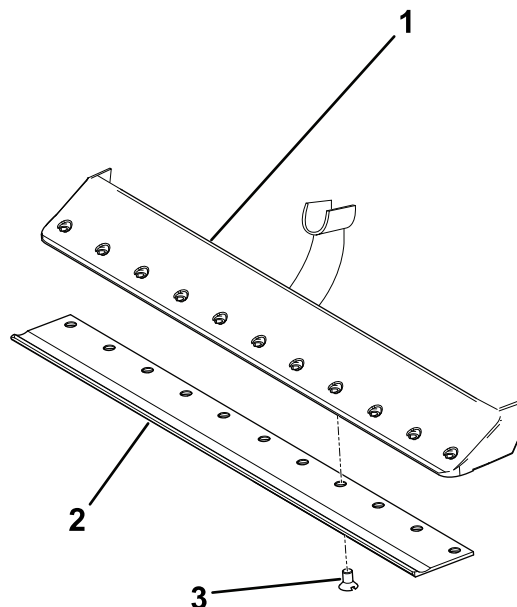

Figure 18
4. Apply anti-seize compound to the screws and install the bedknife to the bedbar as follows (Figure 18):